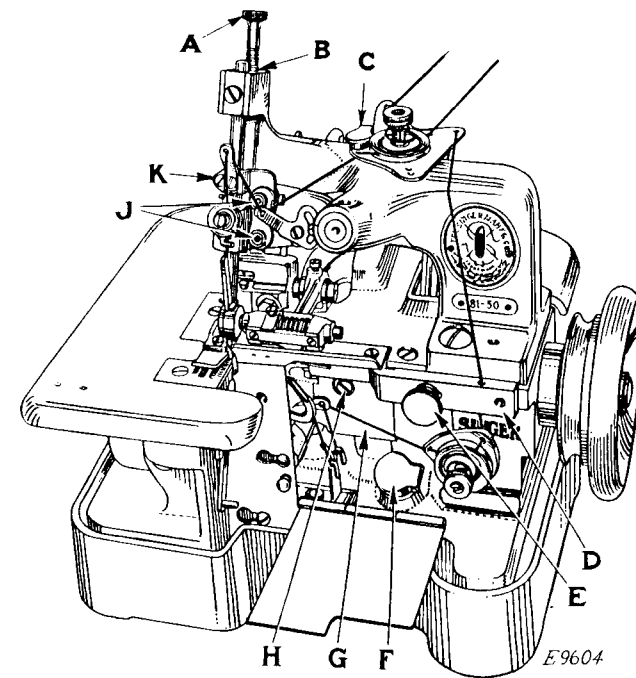
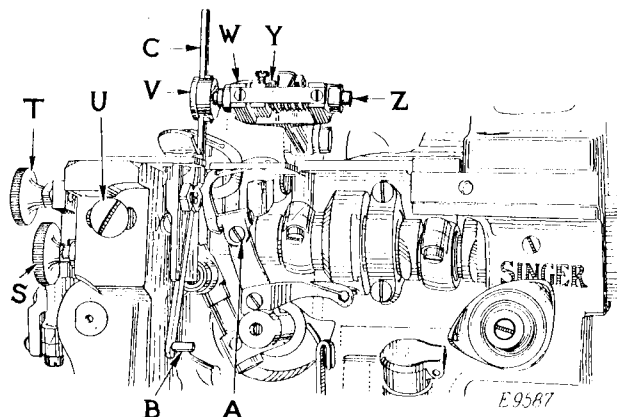

FIG. 42
FIG. 45
Turn the balance wheel over from you until the needle bar has risen $\frac{3}{32}$ inch from its lowest position. The point of the left hand looper, on its loop taking stroke, should then be at the centre of the needle, and the eye of the needle should be about $\frac{1}{16}$ inch below the looper point. If the needle bar is not at the correct height, loosen the pinch screw (K, Fig. 42) and move the needle bar upward or downward as required, then securely tighten the pinch screw (K).
The left hand looper should be set in the looper carrier by means of the screw (A, Fig. 45), so that the point of the looper on its loop taking stroke passes as close as possible to the needle without striking it. The point of the right hand looper or spreader should pass at the recess back of the left hand looper eye as close as possible without touching it.
The lower knife (B, Fig. 45) should always be fastened in position when removing or replacing the upper knife. The lower knife is adjustable to the right or left and its position governs the position of the upper one, also the width of bight on the goods.
To remove the lower knife (B, Fig. 45), loosen the thumb screw (T, Fig. 45) and draw the knife out downwardly.
To replace the lower knife, have the presser foot and feed down, press the upper knife holder (V, Fig. 45) toward the balance wheel, and push the lower knife upwardly so as to touch the presser foot without lifting it, then tighten the thumb screw (T, Fig. 45).
To adjust the trimmer sidewise, loosen the thumb screw (E, Fig. 42) and move the extension bracket (D, Fig. 42) to the right or away from the upper knife; loosen the screw (U, Fig. 45) and turn the thumb screw (S, Fig. 45) inwardly or outwardly until the trimmer is in the desired position, then securely tighten the screw (U, Fig. 45). Move the extension bracket (D, Fig. 42) back toward the upper knife, leaving just enough clearance between the upper knife and the bracket so as to allow free movement of the upper knife, then tighten the thumb screw (E, Fig. 42).
To remove the upper knife (C, Fig. 45), loosen the screw (Z, Fig. 45) at the end of the knife holder, press the knife holder (V, Fig. 45) toward the balance wheel and remove the knife.
When replacing the upper knife, have the knife holder in its lowest position and pressed toward the balance wheel, insert the knife and set it so that its cutting edge is just below the cutting edge of the lower knife, then tighten the clamping screw (Z, Fig. 45).
When the knives are in contact, the space between the guide (Y, Fig. 45) and the knife lever (W, Fig. 45) should be about $\frac{1}{32}$ inch.